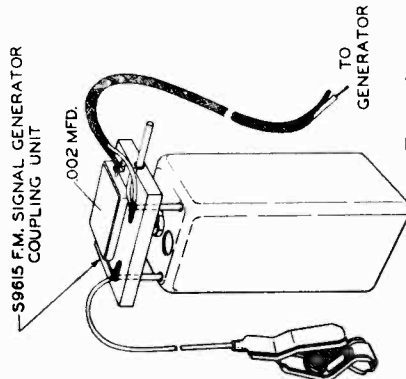

FIG. 2
Holes have been placed at the top of all the FM IF transformer shields so that a signal generator may be connected across the transformer secondaries to facilitate alignment. (see fig. 2) A very high input signal will be necessary to get an output indication for the discriminator alignment. Should the generator be unable to supply sufficient signal, the Discriminator input stage may be aligned first in order that its gain may be utilized to raise the input signal to the discriminator.
2. Feed an unmodulated signal, at the IF frequency, through the dummy antenna (fig. 2) to the 3rd IF transformer secondary. (The IF frequency is stamped on the IF transformer shields.) Adjust the slug B4 for resonance. Rotating the slug B4 through the resonance point will cause the output meter to swing through zero from positive to negative or vice versa. A zero reading on the meter indicates the desired resonance point.
6. (Meter at HALF load) Connect the generator to the converter grid. A small socket is provided near the converter tube which will accommodate the side pin of the #S9615 Dummy Antenna assembly (fig. 2) to facilitate this generator connection. Adjust the 1st IF transformer trimmers A1 B1 for maximum output.